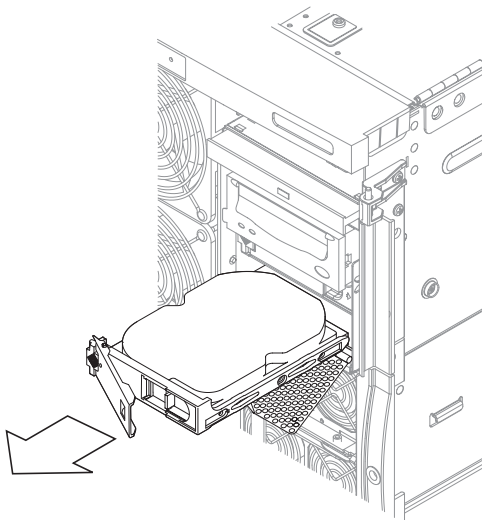

FIGURE 5-4 Removing the Hard Disk Drive
- 9. Remove the drive from the drive bay while holding the drive handle (FIGURE 5-4).**